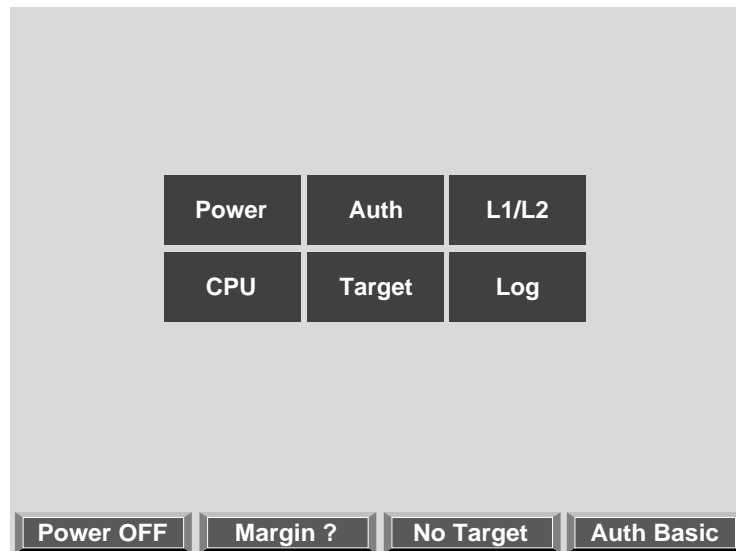

Figure 4-7 L2 Interface Home Window
4. Select **Power** from the Home window as shown in Figure 4-7.